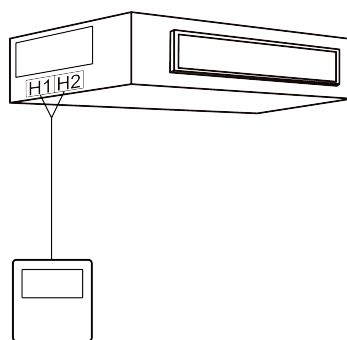

Fig 5.4.1
- (1) Open the cover of electric box of indoor unit.
- (2) Lead the communication line of wired controller across the rubber ring.
- (3) Connect the communication line of wired controller to terminal H1 and H2 on the 4-digit wiring board of indoor unit.
- (4) Use a wire clamp to fasten the communication line of wired controller.
- (5) Instruction of connection of wired controller.
- (6) Fig 5.4.1 shows the installation of wired controller.